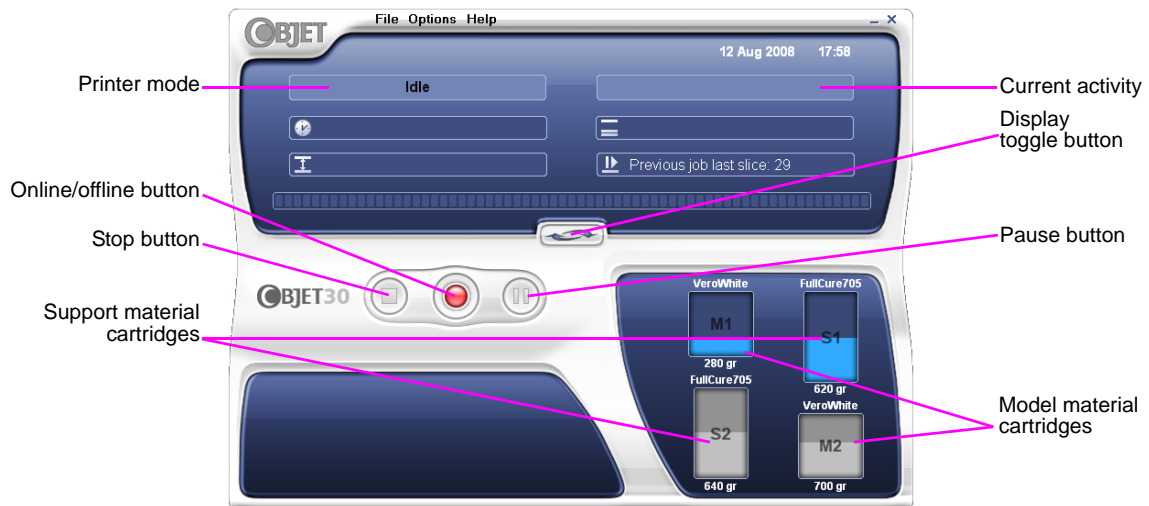

Figure 7-3: Objet30 interface
The Objet30 printer interface screen opens (see figure 7-3). All monitoring and controlling of the Objet30 printer is done from this interface.
Objet30 printers use two cartridges of model material and two cartridges of support material, each weighing one kilogram when full. A graphical representation of the cartridges and their current weight appears in the printer interface (see figure 7-3).
4. Check the Objet30 printer interface to make sure that the new cartridge is detected and that its weight is displayed (see figure 7-3).
2. Make sure that there is sufficient model and support material loaded in the printer, as indicated in the Objet30 printer interface (see figure 7-3). You may want to replace the cartridges of model and support material currently loaded in the printer to avoid the need for replacing them during printing.
1. If the printer is in offline mode, switch it to online mode by clicking the red button at the bottom of the Objet30 printer interface (see figure 7-3 on page 3).